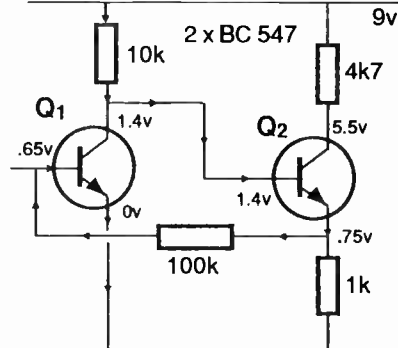

Fig. 6. The two transistors and the direction of current flow
7. From fig 6, determine the voltage drop across the 10k resistor.